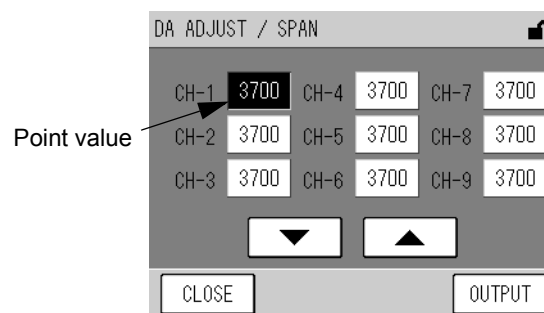

Fig. 57 DA ADJUST/ SPAN screen
- [SPAN]: Displays the DA ADJUST/ SPAN screen for span calibration of analog output (Fig. 57 on page 46).